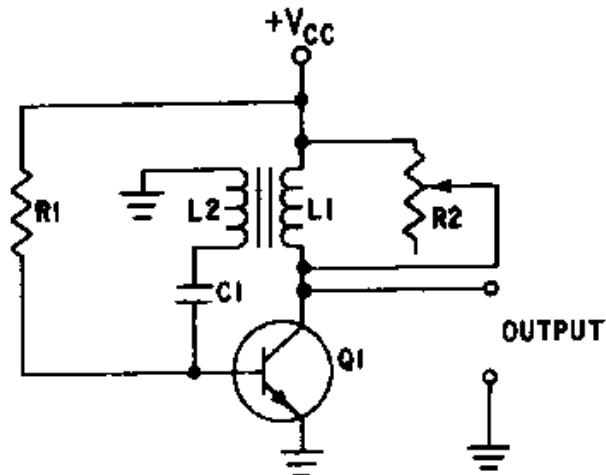

Figure 3-35.—Circuit damping.
The collector waveform may have an INDUCTIVE OVERSHOOT (PARASITIC OSCILLATIONS) at the end of the pulse. When Q1 cuts off, current through L1 ceases, and the magnetic field collapses, inducing a positive voltage at the collector of Q1. These oscillations are not desirable, so some means must be employed to reduce them. The transformer primary may be designed to have a high dc resistance resulting in a low Q; this resistance will decrease the amplitude of the oscillations. However, more damping may be necessary than such a low-Q transformer primary alone can achieve. If so, a DAMPING resistor can be placed in parallel with L1, as shown in figure 3-35.
When an external resistance is placed across a tank, the formula for the Q of the tank circuit is $Q = R/X_L$, where R is the equivalent total circuit resistance in parallel with L. You should be able to see from the equation that the Q is directly proportional to the damping resistance (R). In figure 3-35, damping resistor R2 is used to adjust the Q which reduces the amplitude of overshoot parasitic oscillations. As R2 is varied from infinity toward zero, the decreasing resistance will load the transformer to the point that pulse amplitude, pulse width, and prf are affected. If reduced enough, the oscillator will cease to function. By varying R2, varying degrees of damping can be achieved, three of which are shown in figure 3-36, view (A), view (B) and view (C).